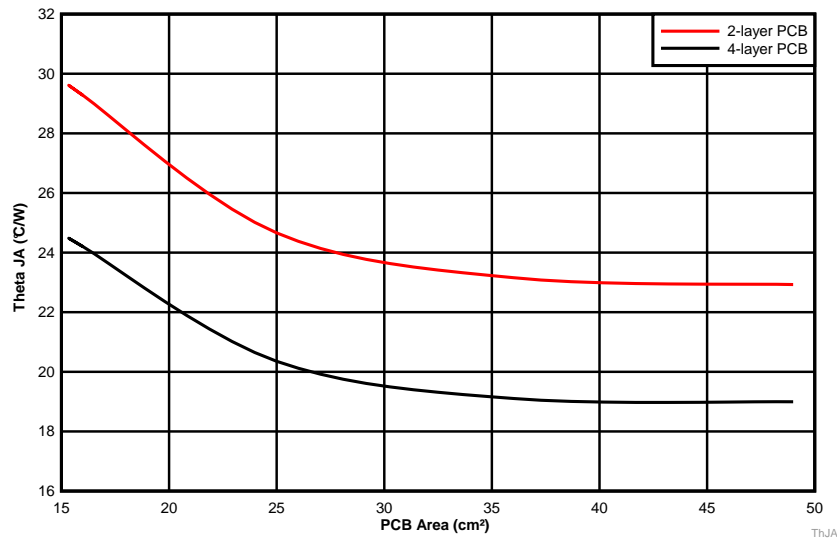

Figure 37.  $\theta_{JA}$  vs PCB Area
The amount of PCB copper effects the thermal performance of the device. Figure 37 shows the effects of copper area on the junction-to-ambient thermal resistance ( $R_{\theta JA}$ ) of the LMZM33602. The junction-to-ambient thermal resistance is plotted for a 2-layer PCB and a 4-layer PCB with PCB area from 16 cm2 to 49 cm2.
3. Reference Figure 37 to determine the minimum required PCB area for the application conditions.